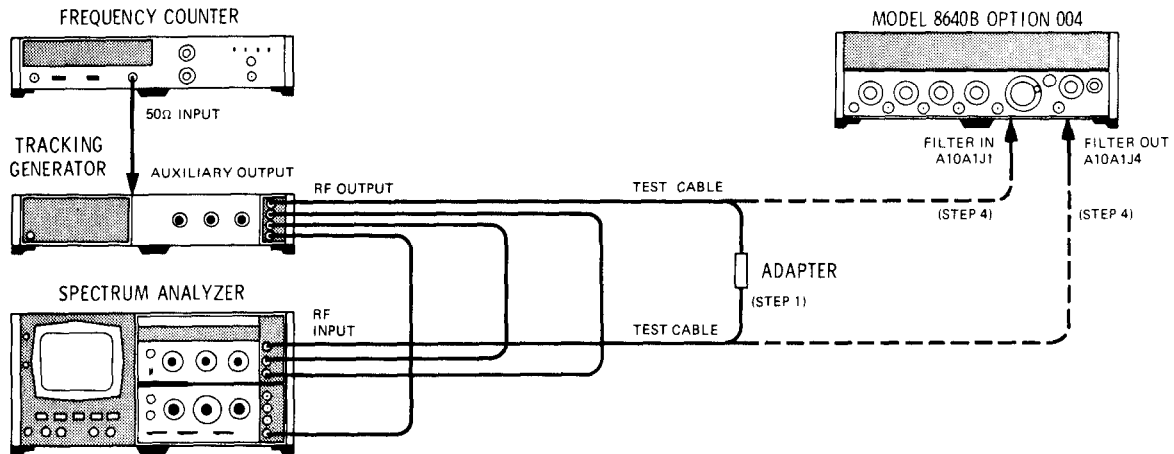

Figure 5-9. RF Filter Adjustment Test Setup
1. Connect equipment as shown in Figure 5-9 after setting Signal Generator's controls as follows: